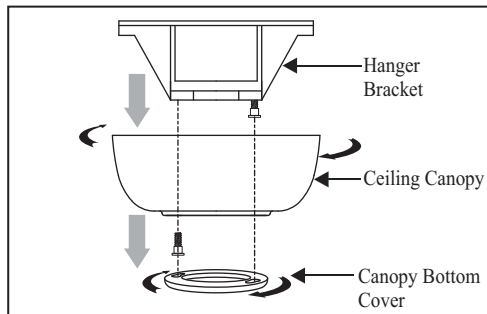

Figure 5
1. Remove the canopy cover from the canopy by turning the cover counter clockwise. (Figure 5)
2. Remove the hanger bracket from the canopy by removing the non-slotted screws from the bottom of the hanger bracket and loosening the other one a half turn from the screw head. Next, turn the canopy counter clockwise to removing the hanger bracket from the canopy. (Figure 5)